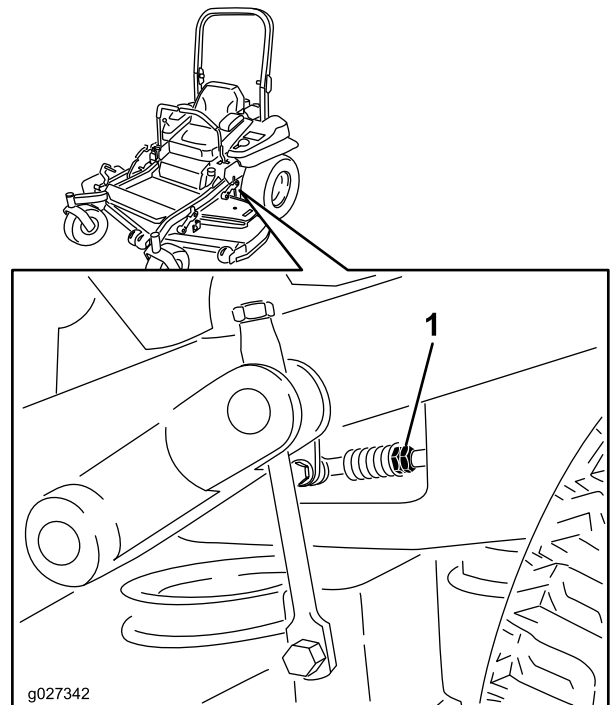

Figure 86
8. Adjust the pump control rod lengths by rotating the double nuts on the rod in the appropriate direction until the wheels slightly creep in reverse (Figure 86).